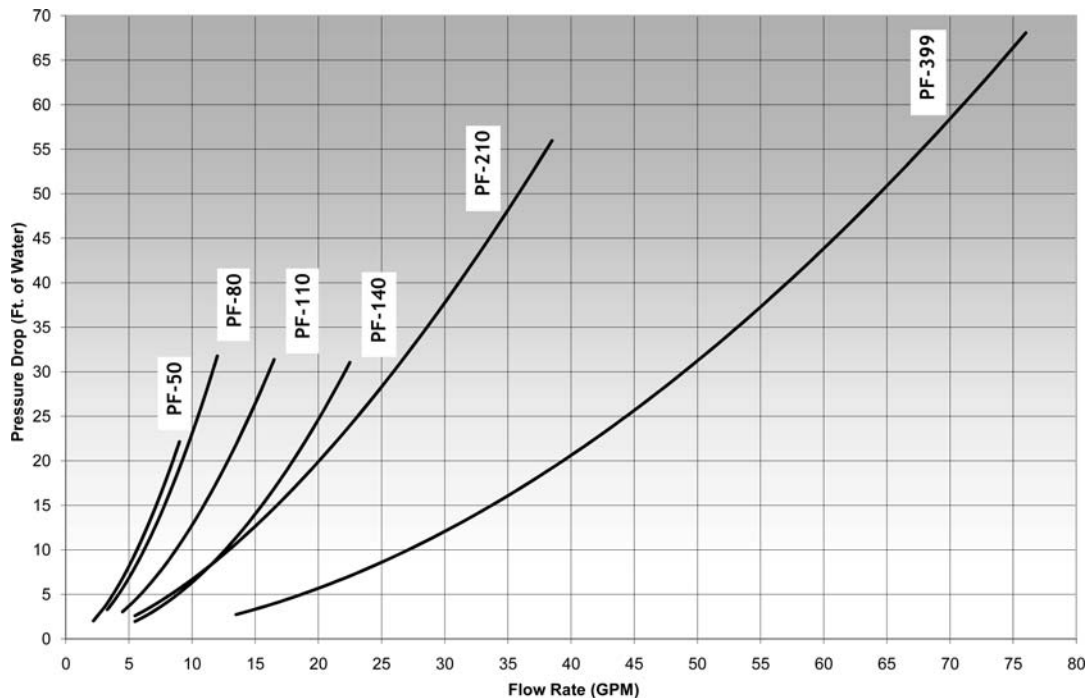

Figure 4.4: PUREFIRE® Circulator Sizing Graph (General Pump – Primary/Secondary)
- d. The boiler pressure drop for various flow rates can be determined using Figure 4.4, the PUREFIRE® Boiler Circulator Sizing Graph.